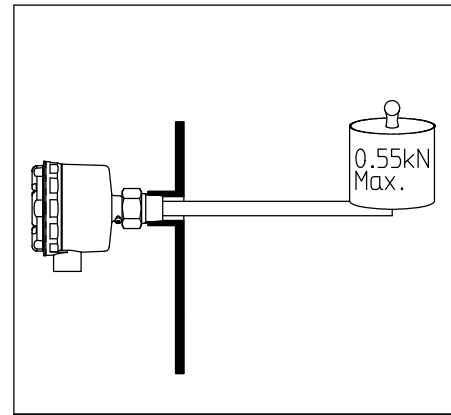

Fig. 5-9
- (9) Ensure lateral load applied to the detecting pipe will not exceed the rating. Maximum load at the end of the pipe ($\phi 17.3\text{mm}$, 270mm long) is 0.55kN (static load). Load greater than this may cause faulty operation or product damage. (Fig. 5-9)